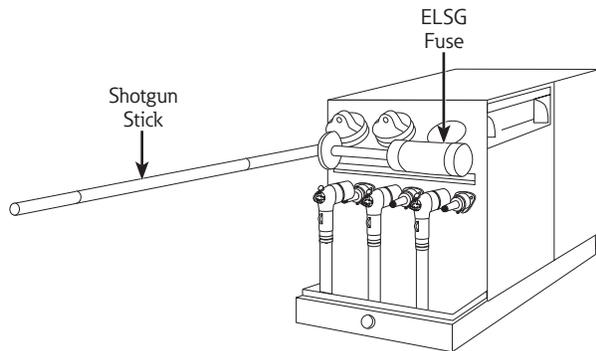

Figure 7. Place fuse assembly in clean drip pan.
- Place fuse assembly in clean drip pan or drip cloth. Wipe off excess oil. (Refer to Figure 7.)